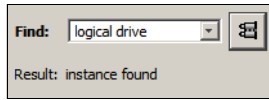

Figure 14-17 The Find box
- Use the **Find** box (Figure 14-17) in the lower left corner of the profile window to search the profile. Enter the required text and click the Binoculars icon to find the string in the current tab.